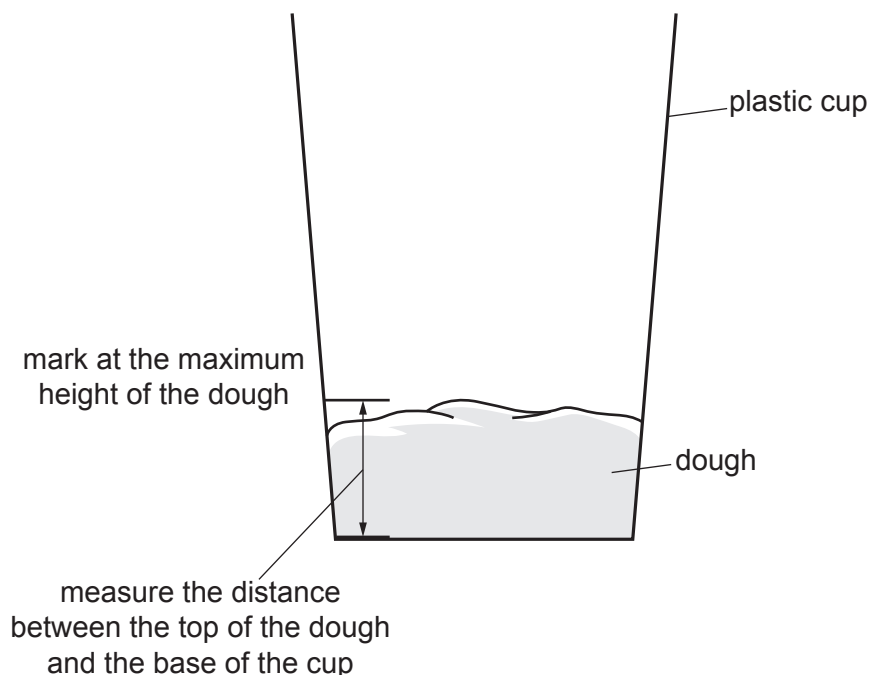

Fig. 1.1
- Step 8 Mark the maximum height of the dough on the outside of each cup with the marker pen. Measure the height of this line from the base of each cup using a ruler, as shown in Fig. 1.1. Record these measurements in your table in **1(a)(i)**.